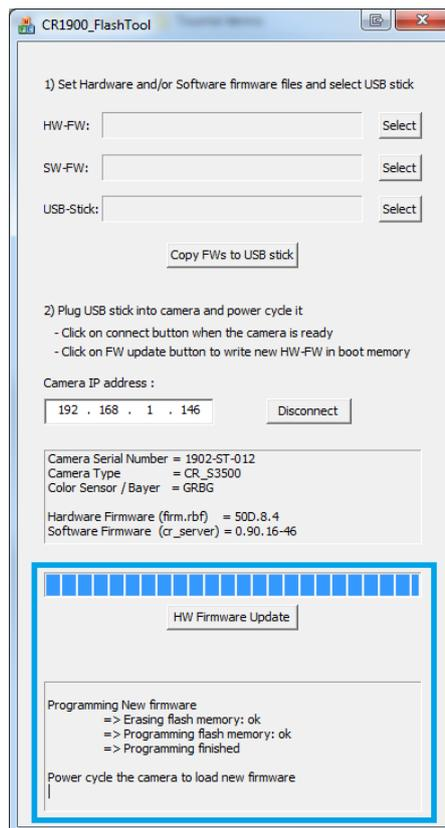

Figure 34: Update finished
- When Update is finished (see Figure 34), power cycle the camera.